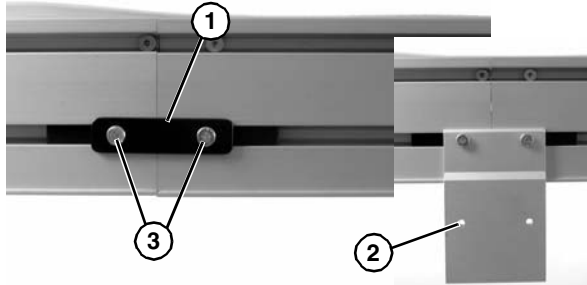

Figure 9
5. Join additional conveyor sections if necessary and install connector brackets (**Figure 9, item 1**) or connector/mount brackets (**Figure 9, item 2**) and screws (**Figure 9, item 3**) on both sides as indicated. Tighten screws to 60 in-lb (7 Nm).